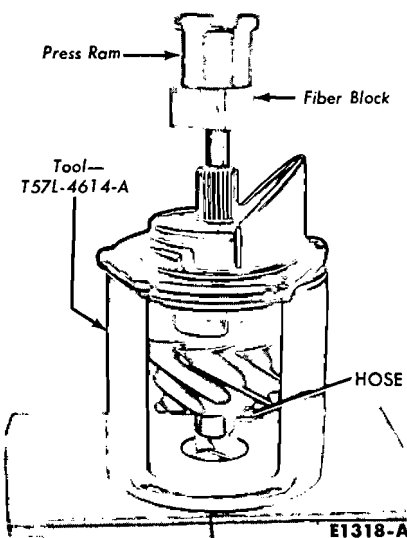

FIG. 38—Removing Pinion Front Bearing Cone
4. Place a protective sleeve (hose) on the pinion pilot bearing surface. Press the pinion shaft out of the pinion front bearing cone (Fig. 38).